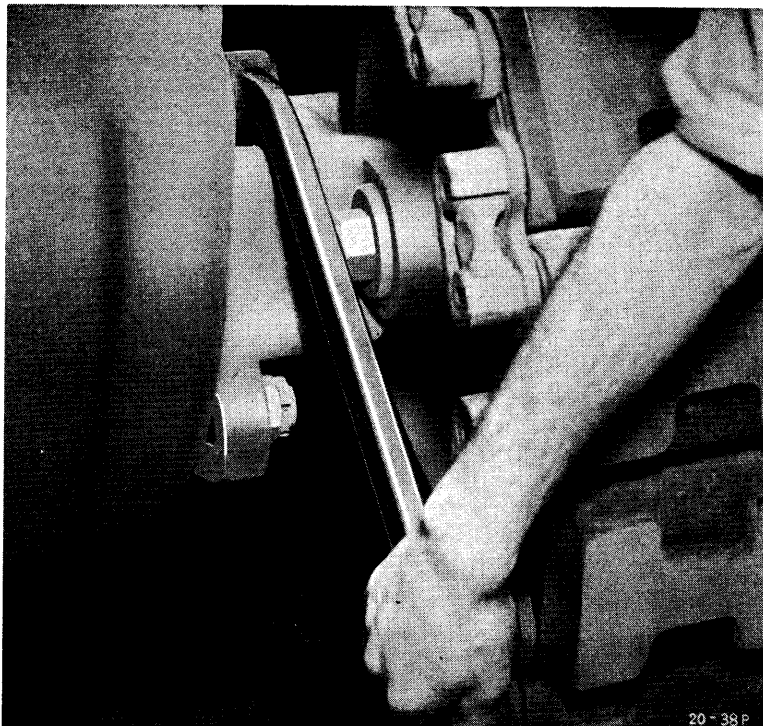

Fig. 41. Wrench 1-11009 used on tensioning wheel bracket nuts
1. The track tension must be released as far as possible. Loosen the four lock and clamping nuts securing the track tensioning wheel bracket to the hull with wrench No. 1-11009, see Fig. 41. It is important not to loosen the two rear nuts too much or unevenly, otherwise the bracket will dig into the hull at its front edge and refuse to slide.